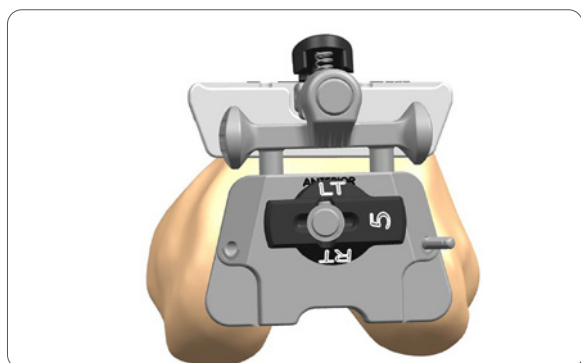

Figure 63
3. Orient rotation of the assembly neutral to the posterior condyles (**Figure 63**) insert a headed or non-headed 65mm pin into one or both of the oblique pin holes.